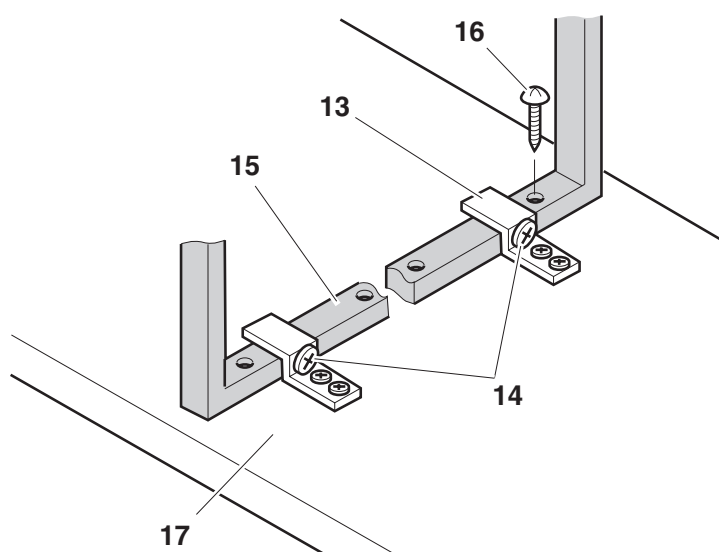

Fig. 10
- Adjust the front panel **17** with the two raised-head screws **14** on the middle transverse tube **11**, fix with a screw **16**. If necessary, secure bed frame and front plate with a G-clamp and check the front plate gap, see **Fig. 10**.